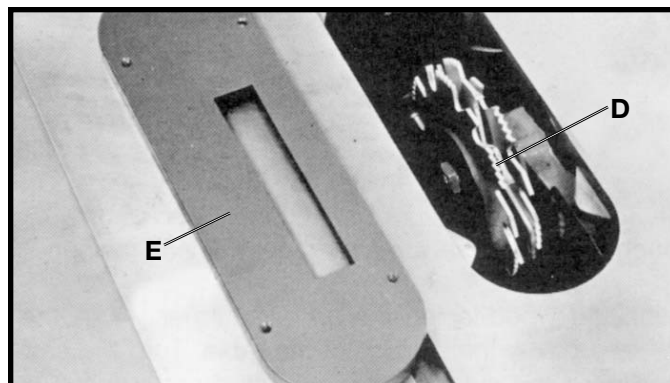

Fig. 92
The dado head set (D) Fig. 92, is assembled to the saw arbor as shown.
⚠ WARNING THE OUTSIDE ARBOR FLANGE CAN NOT BE USED WITH THE DADO HEAD SET, TIGHTEN THE ARBOR NUT AGAINST THE DADO HEAD SET BODY. DO NOT LOOSE THE OUTSIDE ARBOR FLANGE, FOR IT WILL BE NEEDED WHEN REATTACHING A BLADE TO THE SAW ARBOR. ALSO, THE ACCESSORY DADO HEAD SET TABLE INSERT (E) FIG. 92, MUST BE USED IN PLACE OF THE STANDARD TABLE INSERT.